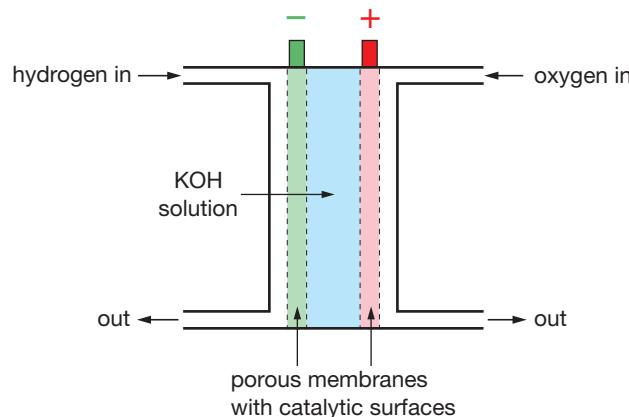

FIGURE 2.14
The *hydrogen–oxygen fuel cell* shown in Figure 2.14 is a typical example. The electrodes are porous carbon with a coating of a catalyst. Hydrogen and oxygen flow slowly across the separate electrodes while there is a potassium hydroxide solution between the electrodes.
- 21 a** A methanol–oxygen fuel cell has been developed. Its construction is similar to the cell in Figure 2.14. The fuel is methanol, the electrolyte is sulfuric acid and oxygen gas (from air) is the other reactant. Deduce the half reactions for this cell (methanol is oxidised to carbon dioxide), and hence the overall reaction.
- b** Suggest an advantage that this cell has over the one in Figure 2.14.